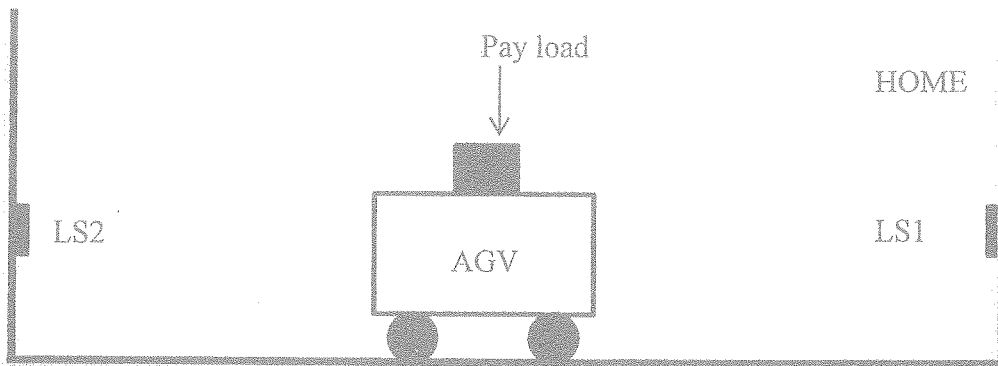

Figure Q1
- c) A material handling system consists of an AGV (Automated Guided Vehicle). The AGV has to move from one place to another for loading and unloading the items it carries. Figure Q1 depicts the movements. When the start switch is switched "ON", the AGV has to move from left to right and vice versa. When the LS2 (Limit Switch 2) is triggered, the AGV stops and remains there for 5 seconds to load the items and then moves back to "HOME" position. When LS1 (Limit Switch 1) is triggered, the AGV stops and waits there for unloading and then for the start signal. [5.0 Marks]